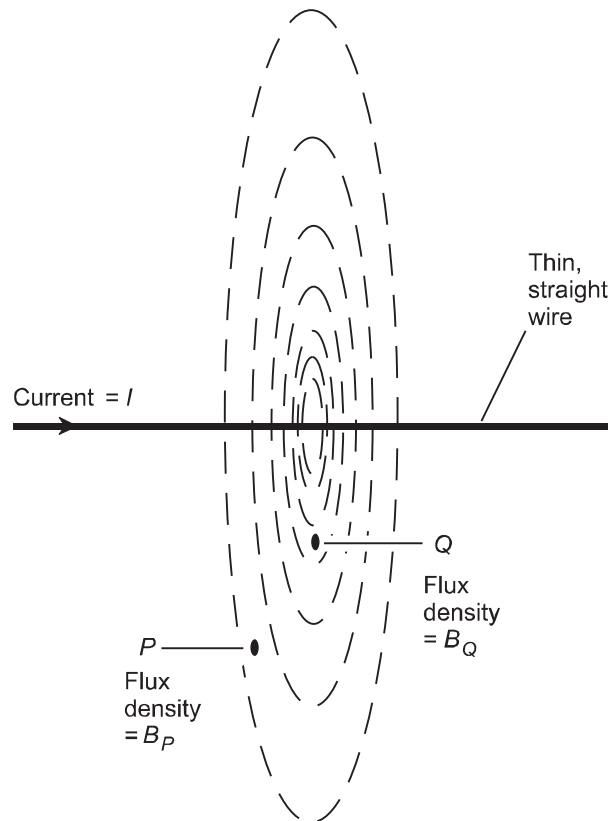

Fig. 10-9. Illustration for Quiz Questions 1 through 4.
1. In Fig. 10-9, the dashed curves represent
2. In the scenario portrayed by Fig. 10-9, how does B_P compare with B_Q ?
3. In the scenario portrayed by Fig. 10-9, suppose you are off to the right of the diagram, looking down the wire. How does the magnetic flux appear to flow from this point of view? Assume the arrow on the wire represents the direction of the conventional current.
4. In the scenario of Fig. 10-9, suppose the wire carries 4.5 A of current, and point Q is 0.18 cm away from the wire axis. What is B_Q in gauss (G)?